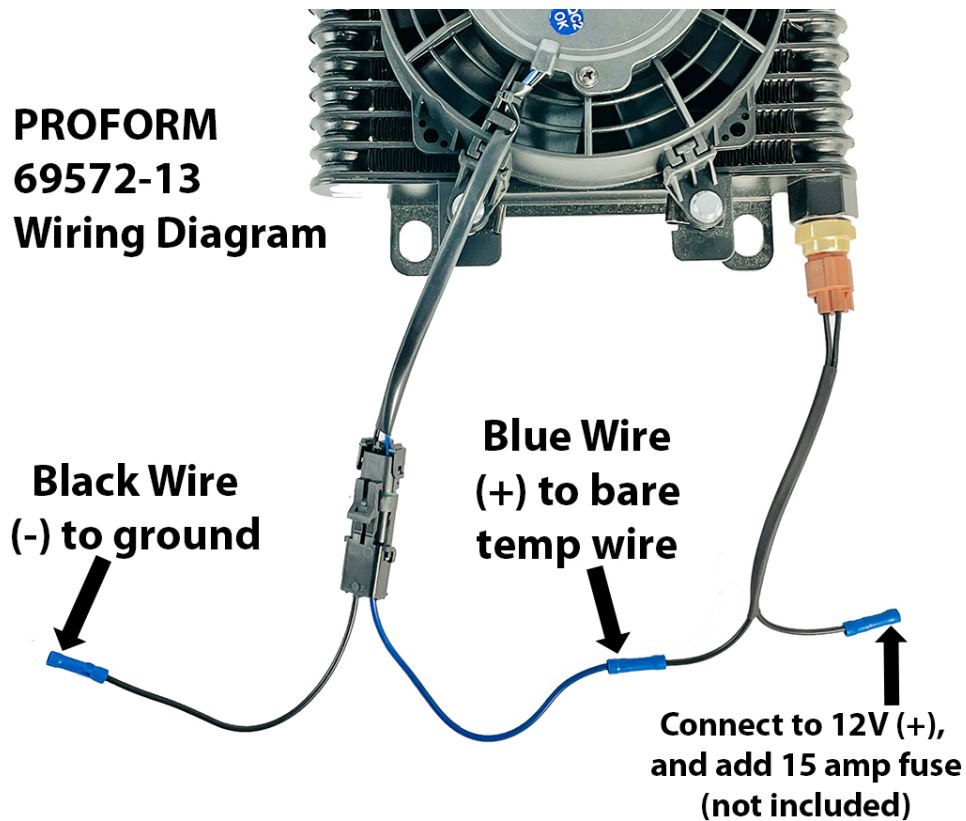

Figure 2
STEP 2. Wire the system according to Figure 2. You will need to supply your own 15 amp fuse. After wiring, connect (+) lead on the vehicle battery to ensure the fan is running the correct direction and pulling air through the cooler.